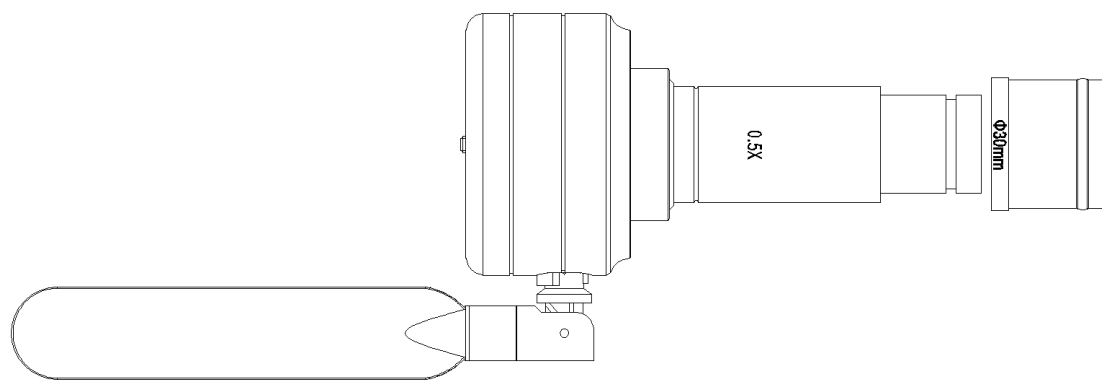

Fig. 3
- (1) Unscrew the dustproof cover of the WiFi Digital Camera, take the protective film on the filter of the cavity.
- (2) Connect the camera to C-mount adapter (for trinocular stereo microscope) or eyetube adapter (See Fig. 3 and 4).